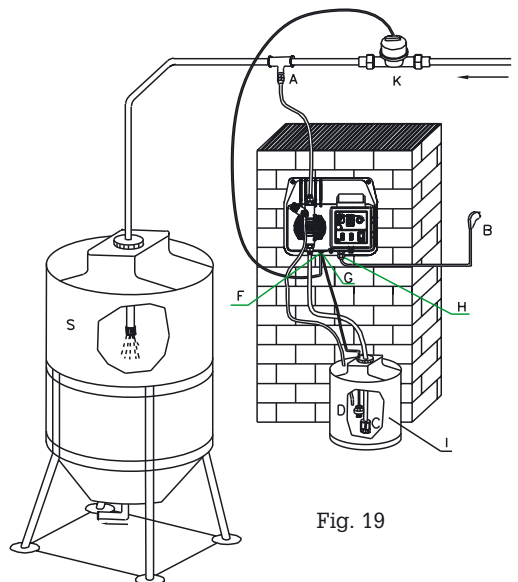

Fig. 19
8.2.2 - TYPICAL INSTALLATION (Fig.19)